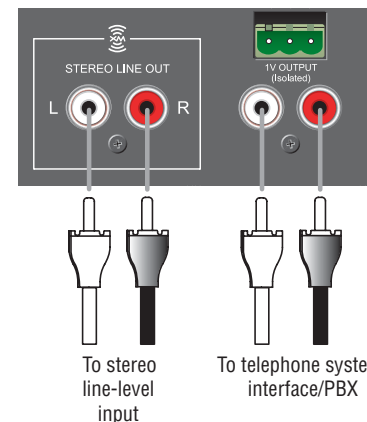

Figure 2.9 Connections to the Stereo Line Out Connector and the MOH Stereo Line Out Connector
Use 1-conductor shielded cable and RCA plugs for the Stereo Line Out connector and the MOH 1V Line Output RCA Connector (Figure 2.9).
- **MOH 1V Line Output Connector:** 3-pin Phoenix connector, 600-ohm transformer-isolated output, provides Music-On-Hold signal of approximately 1 volt. See Figure 2.9.
- **MOH 1W Line Output Connector:** 3-pin Phoenix connector provides Music-On-Hold signal of approximately 1 watt. See Figure 2.9.